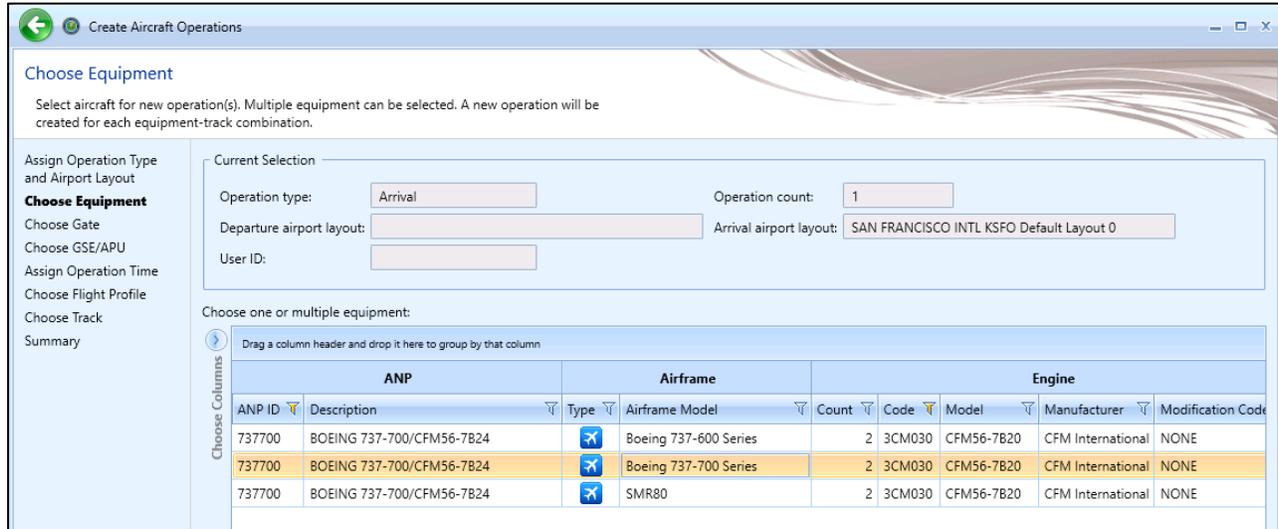

Figure 22. Create Aircraft Operations – Choose Equipment
9. Of the filtered rows, select the record where the Airframe Model is “Boeing 737-700 Series”. Click *Next* (Figure 22).